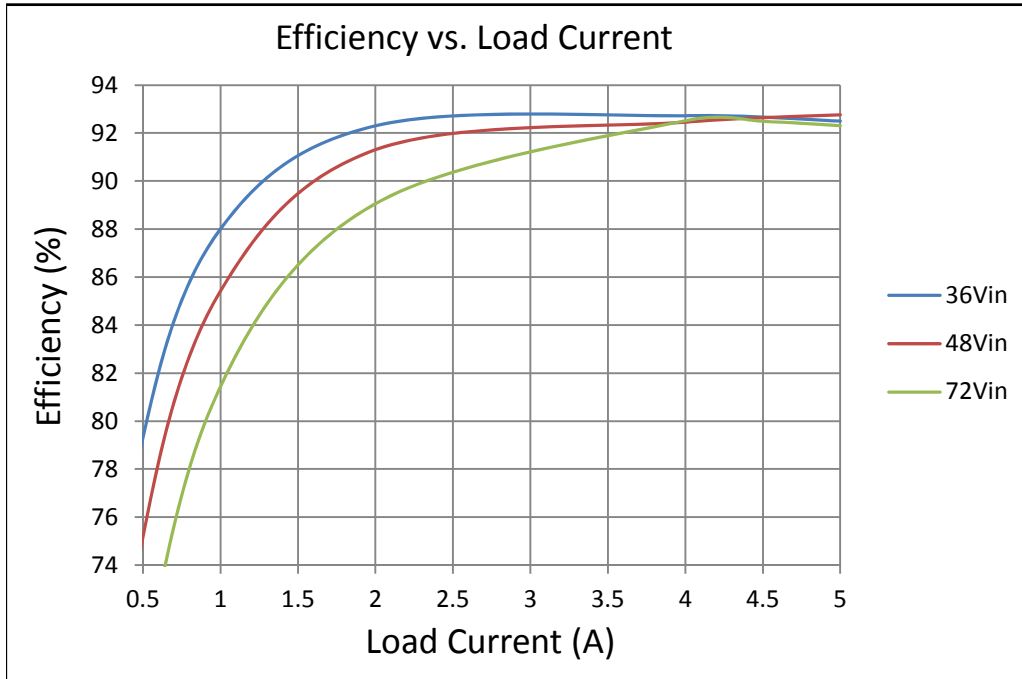
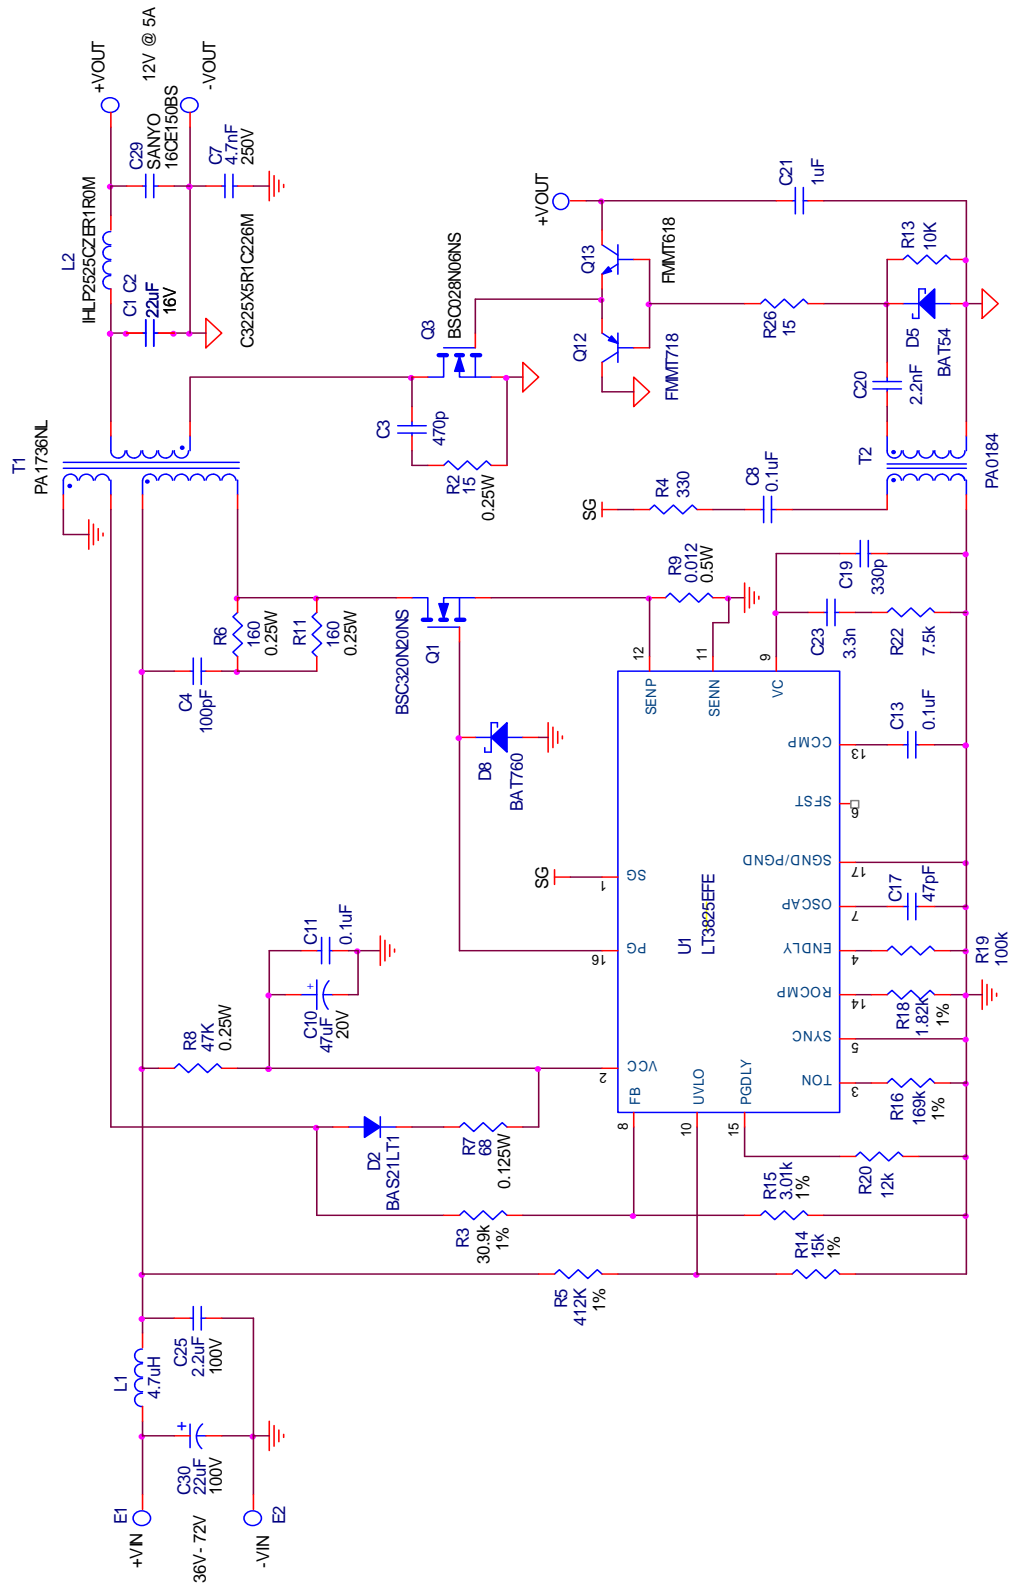

Figure 3. Efficiency
Figure 9. Simplified Schematic
The LT3825 controller exhibits a self-starting capability. When an input voltage is applied, a trickle charge resistor, R8, charges C10 (See Figure 9) to power V_{CC}. Then, the IC begins a controlled soft-start of the output voltage. As this voltage begins to rise, V_{CC} power is quickly taken over by T1, D2, and R7. When the soft-start period is over, the LT3825 then regulates output voltage by observing the pulses across the auxiliary winding of T1 during the flyback time. The Primary Gate drive (PG) and Synchronous Gate (SG) drive is then Pulse Width
Figures 3 through 8 are measured data for a typical DC894C-C. Figures 9 through 11 are schematics and bill of materials